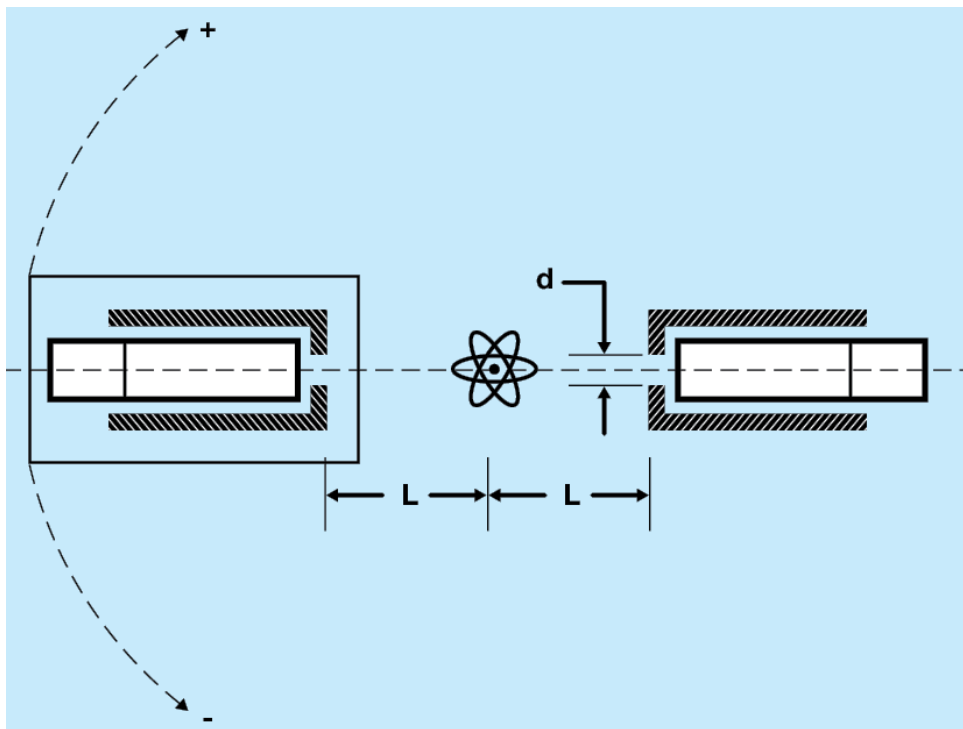

Figure 10-1: Schematic of set up for Positron Annihilation experiment.
2. Configure the NaI detector shielding around each detector. Using the scattering table, remove the scattering pillar if present. Position the two detectors on the scattering table, with a separation of ~16 inches (400 mm) between them. Ensure that the axis of symmetry of the two detectors are aligned with each other, and with the position of the source. (Figure 10-1).